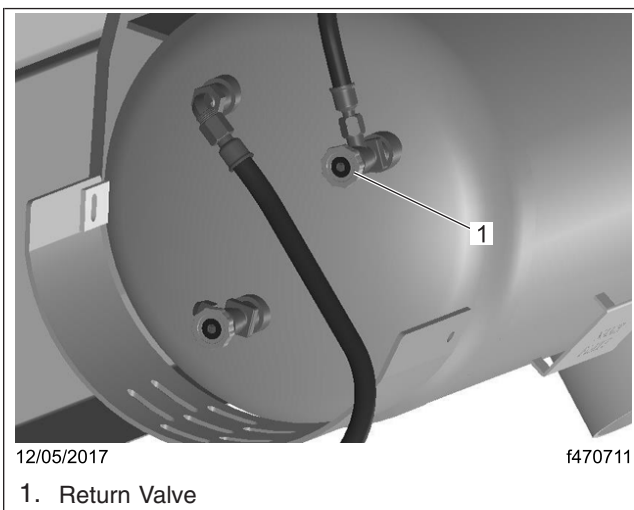

Fig. 3, S2 Delivery Truck, Return Valve
- 4.3 Locate the return valve. See Fig. 3. To shut off the return valve, turn the valve handle clockwise until it reaches its stop (roughly two and a quarter turns).